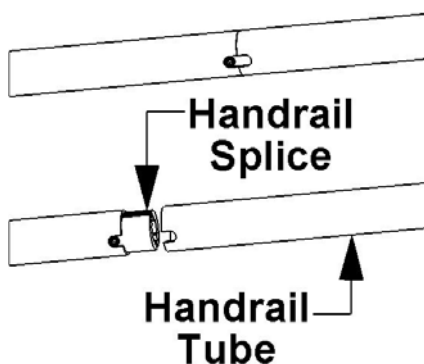
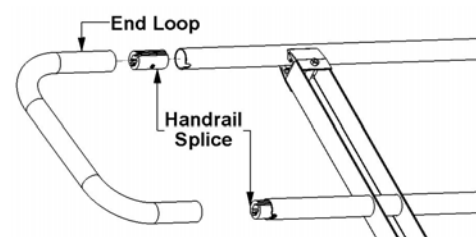

Fig.4.9
Fig.4.10
Before attaching the single post handrail assemblies, nest a handrail splice into the top double post handrail tube as illustrated in Fig.4.9 on page 19. Line top tube of the single post handrail over the splice and then continue attaching single post handrail assemblies the same way as the double post handrail assemblies. Repeat this process at each ramp post location. After all posts have been attached, slide the bottom handrail tubes until they are even with the top tubes and splice together (Fig.4.9, pg.19). After all handrails have been attached to the ramp, go back through and tighten the set screw in all of the splices.
4.3 Handrail Splice Installation: The handrail splice will be used at each handrail tube transition to connect the handrail tubes together giving the handrail the look and feel of one continuous tube. With the handrail splice in place, nest the set screw inside the notch in the bottom of the tube, pull handrail tubes together. Using an allen wrench, tighten the set screw in the handrail splice (Fig.4.9). To attach any of the various end loops slide a handrail splice in each tube at the end of the ramp and slip the end loop over the handrail splice, making sure there is no gap between the handrail tube and the end loop (Fig.4.10). Tighten down set screw.